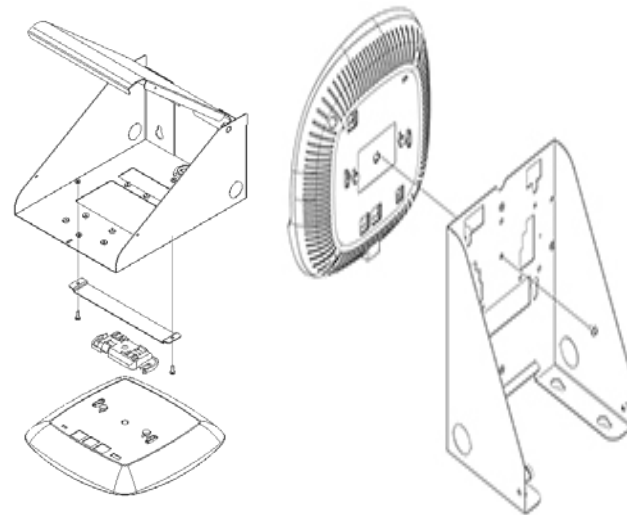

Figure 2
Step 2b (*Aruba and Other Manufacturers*) – Fasten the provided T-Bar bracket in the best position for the access point, then securely fasten the access point and its respective mounting plate or bracket (Figure 2). Slide Aruba access point onto the bracket and secure it w/ #8-32